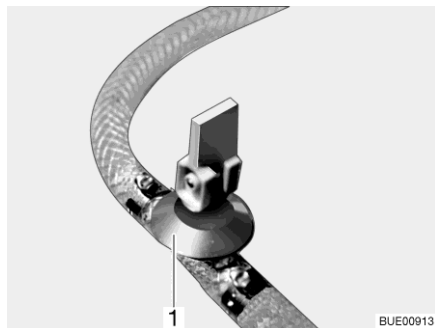
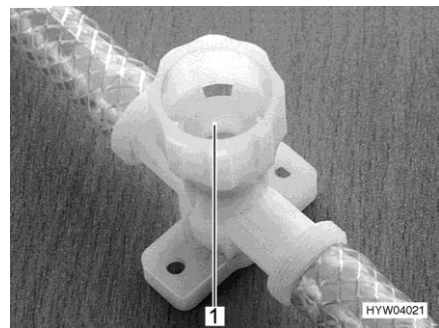

Fig. 258 Drain cock (with rocking lever)
Fig. 259 Drain cock (with twist cap)
- Open all drain cocks. To do this, position the drain cock's rocking lever (Fig. 258,1) vertically or turn the drain cock's cap (Fig. 259,1) in an anti-clockwise direction.